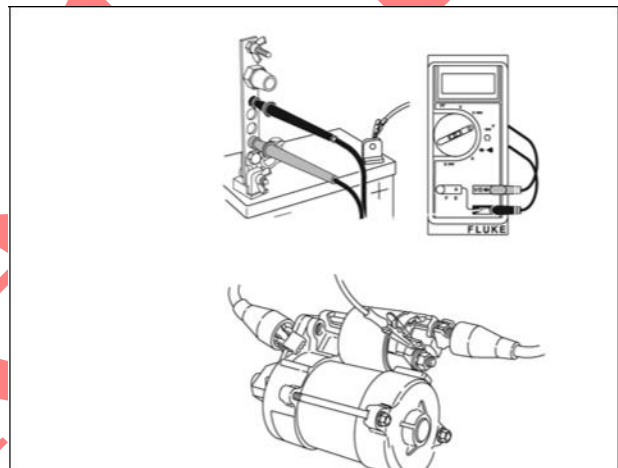

Figure 46
1. Attach one end of battery cable to negative battery terminal and other end of cable to a good ground such as the drive housing (Figure 46).